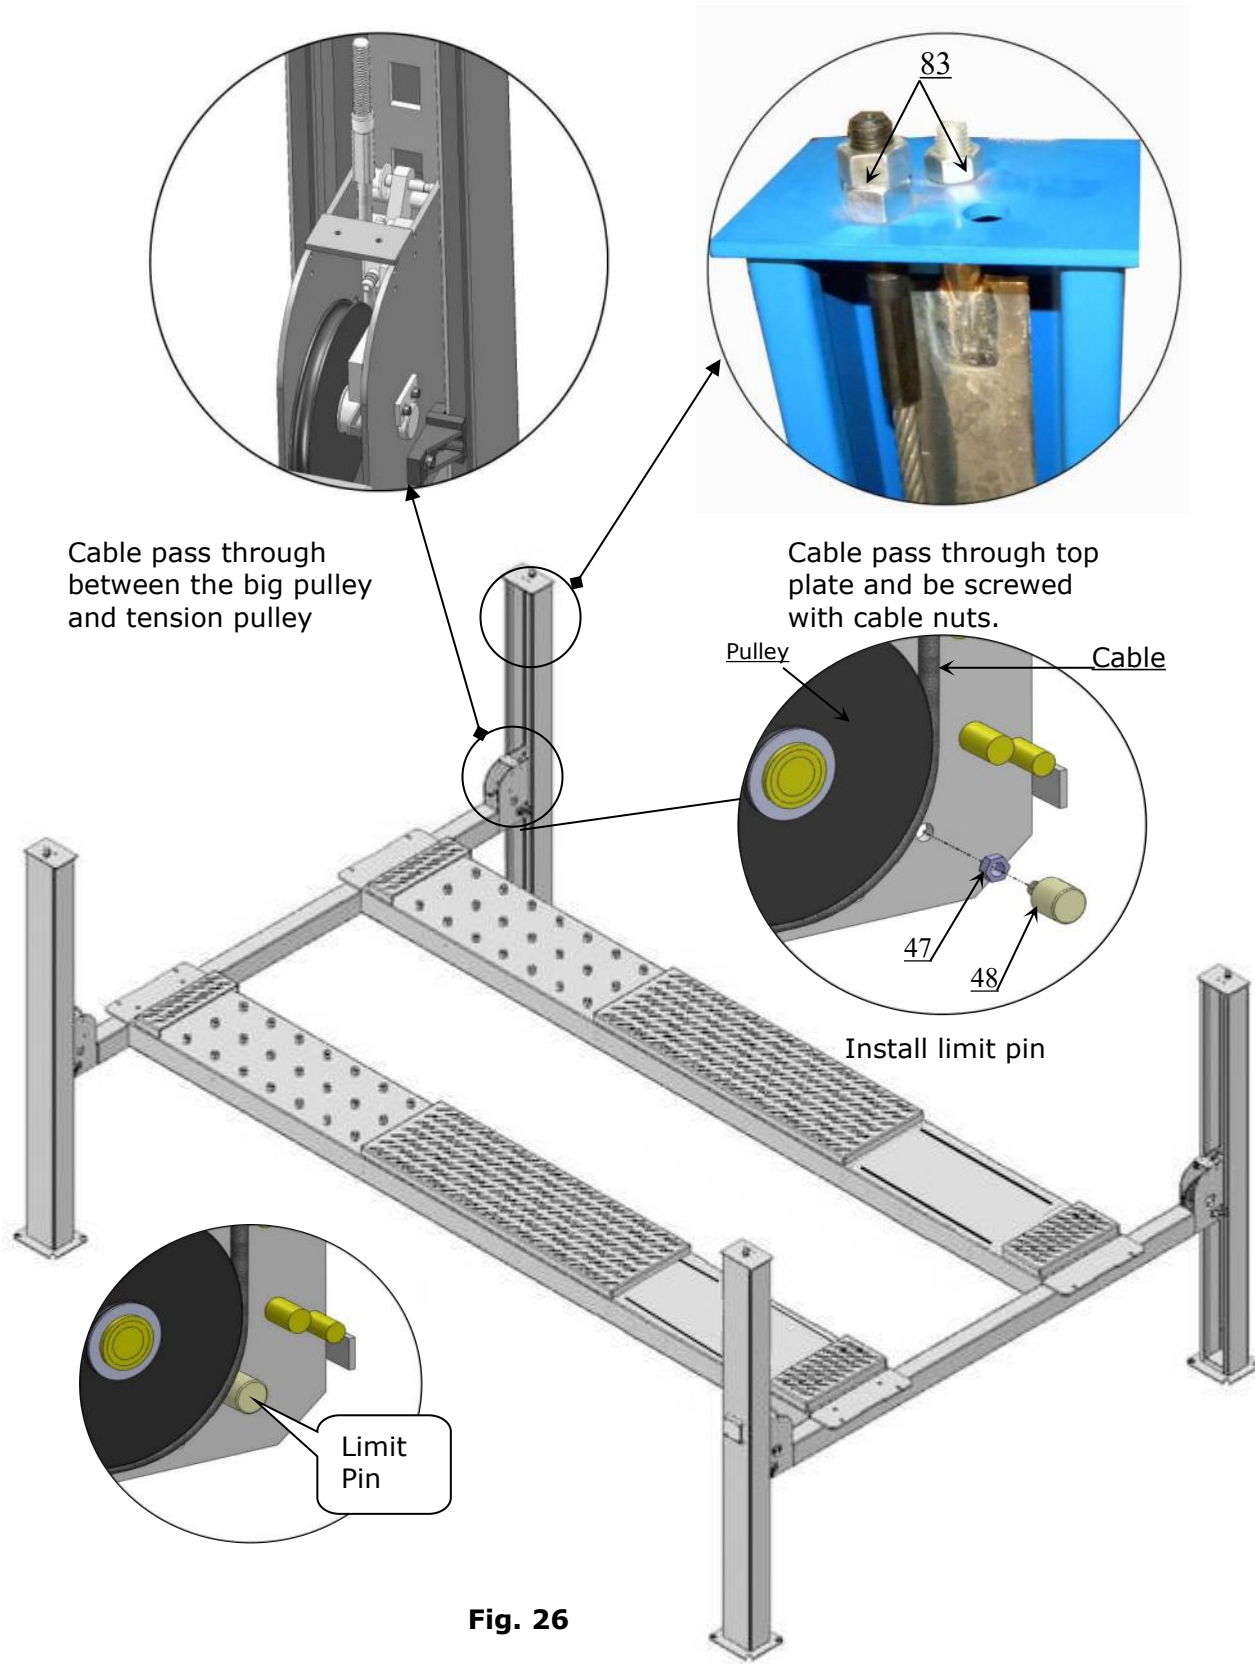

Fig. 26
2. The cable pass through the cross beam to top plate of columns and be screwed with cable nuts (See Fig. 26).